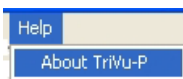

Figure 5-13. Help->About
3. Click on *Help* ► *About TriVU* (Figure 5-13).